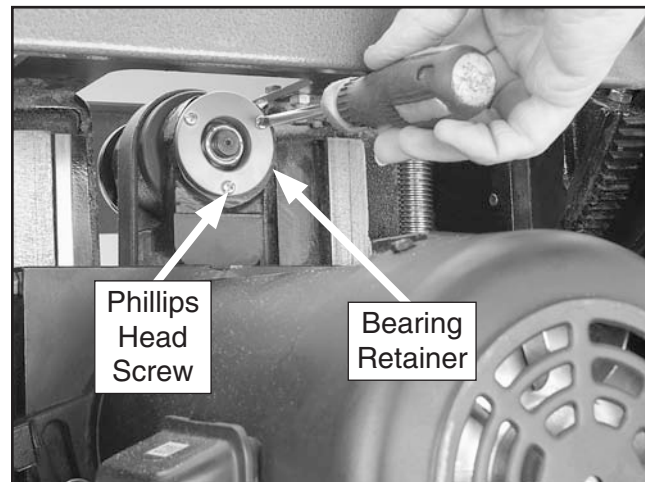

Figure 134. Removing bearing shield.
10. Remove the three Phillips head screws on the bearing retainer, shown in **Figure 134**, then remove the retainer.